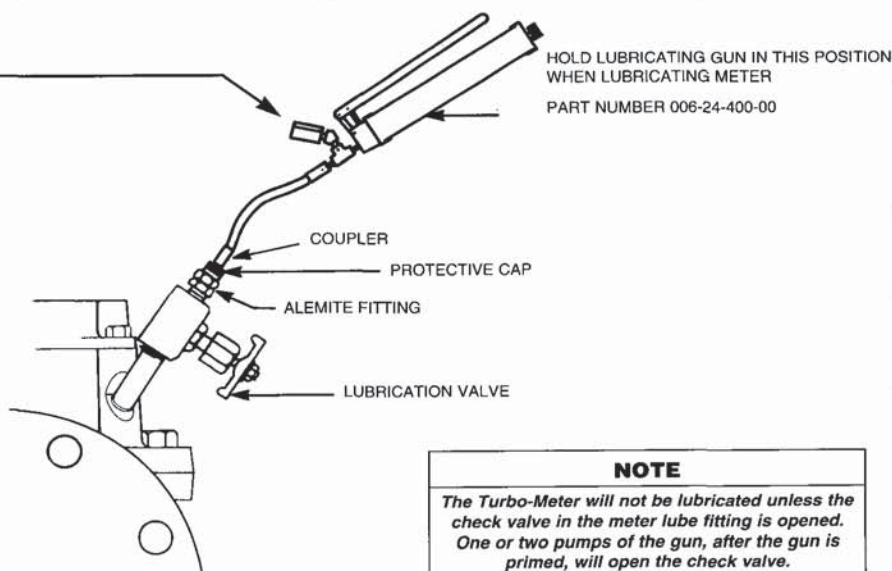

FIGURE 6.
1. Remove protective cap from the lubrication fitting (See Figure 6). Open lubrication valve and check for leakage through the ball-check in the Alemite fitting. If the fitting leaks, close the valve and replace the fitting prior to lubricating the meter.